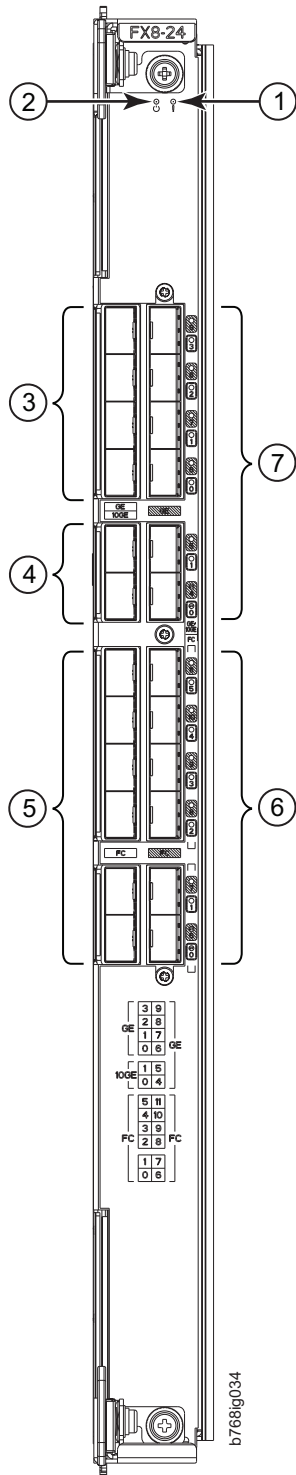

Figure 55. FX8-24 extension blade
- Figure 55 on page 178 shows an FX8-24 extension blade